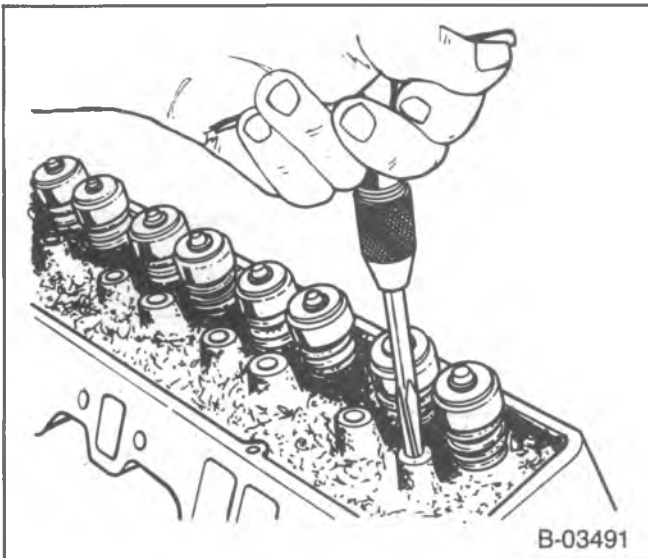

Figure 13—Reaming the Rocker Arm Stud Bore (Typical)
Install or Connect (Figures 13 and 14)
- Ream the hole to the proper size for the replacement oversize rocker arm stud. Use J-5715 for 0.003-inch oversize studs; J-6036 for 0.013-inch oversize studs (figure 13).